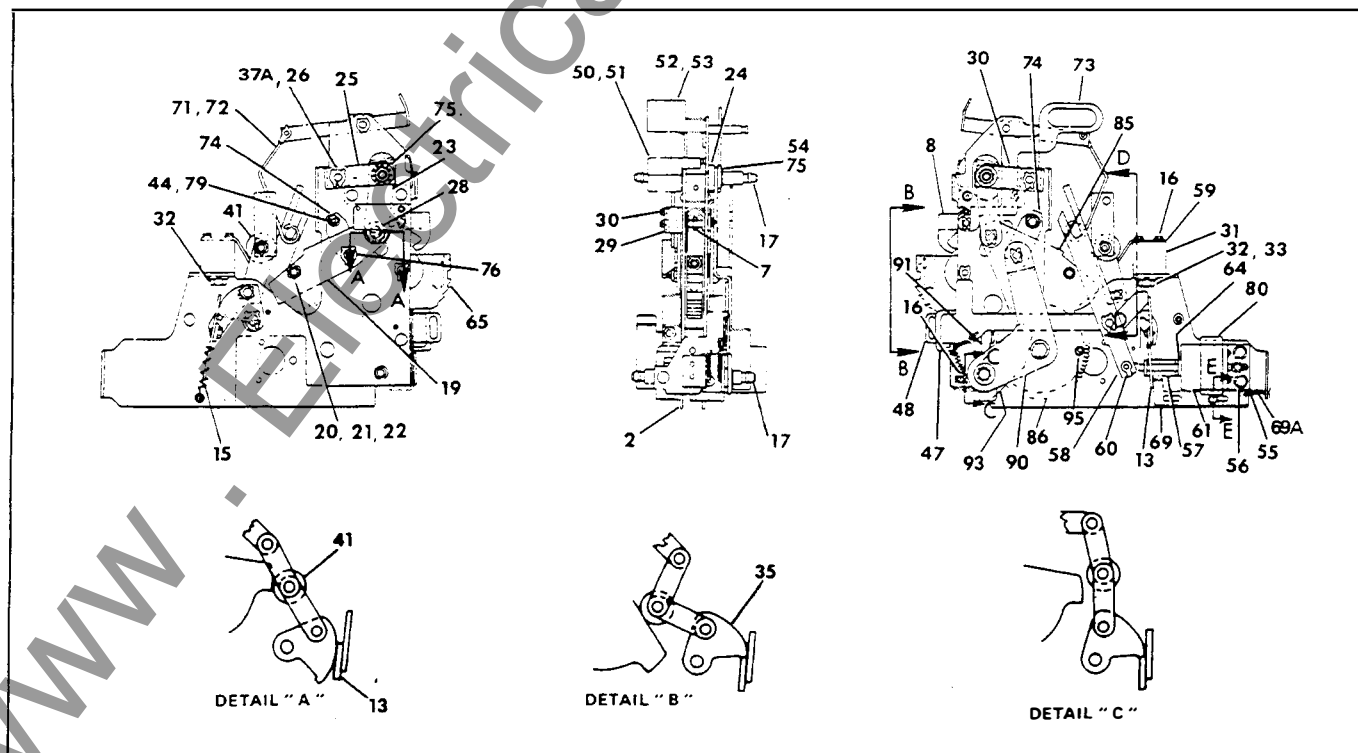

Figure 1. LAF & LA-600B, LA-800A and LA-1600B Operator
The breaker has a center-mounted frame so many of the latches and links are arranged in pairs. For descriptive purposes, they will be referred to as single items. Refer to Figure 1, page 6, and Table 3, page 5. Detail A. shows the position of the trip latch and toggle linkage when the circuit breaker is open and the closing springs are discharged. Movement of the charging handle downward rotates closing cam (65) against roller (28), thus pivoting closing cam (19) clockwise about pin (76). This extends the closing springs through link (23) and spring hanger
(17). Rotation of cam (19) allows roller (41) in toggle linkage to be moved into position shown in Detail B. Kickoff spring (59) moves rollers away from the stop block (31). Then the toggle linkage is moved by torsion spring until latch (35) clears trip latch (13). Spring (15) causes trip latch (13) to reset under latch (35). Trip flap (14) should normally stop against the front surface of latch (35).
cept that the manual charging handle is replaced by a motor and gear system. Refer to Figure 1, Table 4. With power available to the control circuit, closing the motor control switch (MI) will start the automatic charging cycle. The motor gear box pinion rotates gear (86) counterclockwise. Cam follower (95) engages an arm of wind and close cam (85), which rotates the cams in the same manner as for the manually charged circuit breaker. When the wind and close cam (85) reaches its charged position, the back of the cam engages switch lever (9), rotating the lever away from the switch operator. Gear switch lever (93) will still be holding the switch in the operate position, and the motor will continue to run until the roll pins on the side of gear (86) lifts lever (93) clear. This releases the motor cut-off switch (MCO). When the MCO switch opens, the motor stops, and the closing coil circuit is set up through one side of the MCO switch.